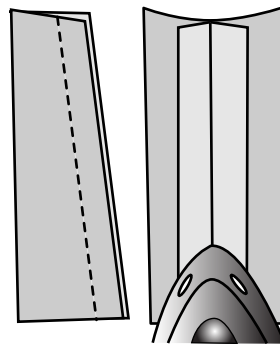

Figure 5a
2. Machine baste the zipper placket opening together on the seam line. Press basted seam allowance open. (Figure 5a) Apply appropriate seam finish.